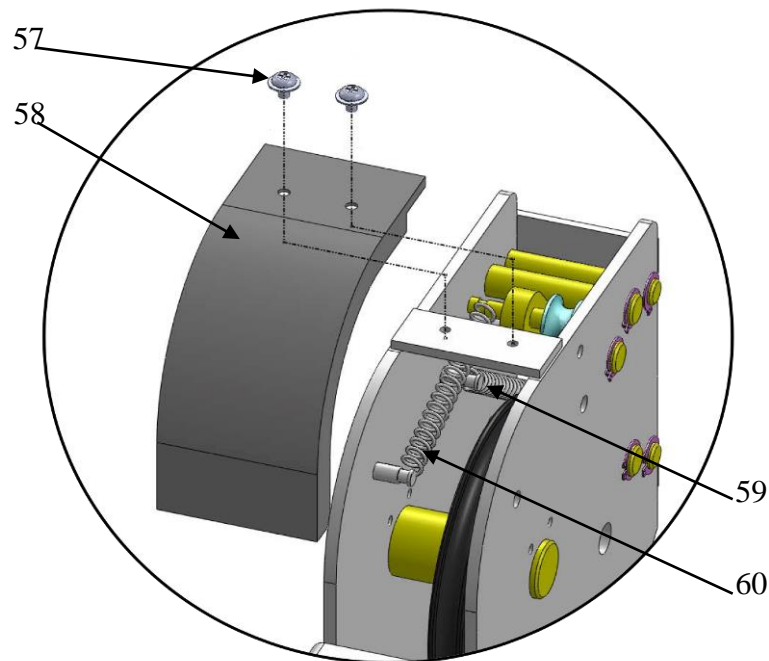

Fig. 28
M. Install spring and safety cover of cross beam (See Fig. 28).